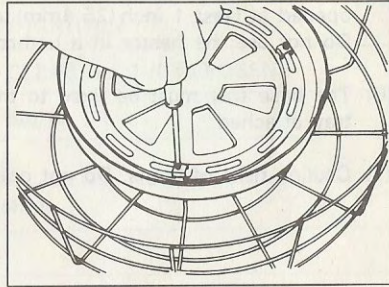

Fig. 3
- (2) Fix the screws to stop the bent ends of guard come off from latch (Fig. 3).